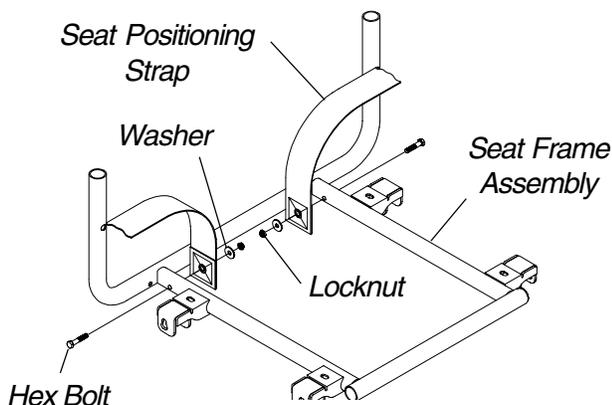

FIGURE 7 - REPLACING SEAT POSITIONING STRAP
**REPLACING SEAT POSITIONING STRAP (FIGURE 7)**
2. Remove the two (2) hex bolts, washers and locknuts that secure the seat positioning strap to the seat frame assembly.
3. Remove the two (2) halves of the seat positioning strap from the seat frame assembly.
4. Position the two (2) new seat positioning strap halves on the inside of the seat frame assembly as shown in FIGURE 7.